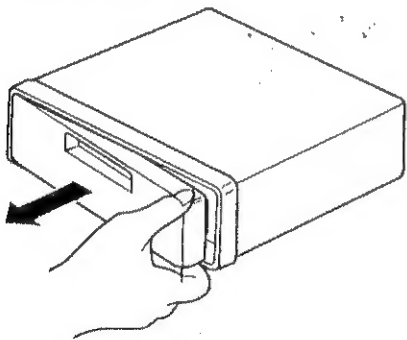

Fig. 14
2. To remove the front panel, pull its right-hand side toward you. (Fig. 14)